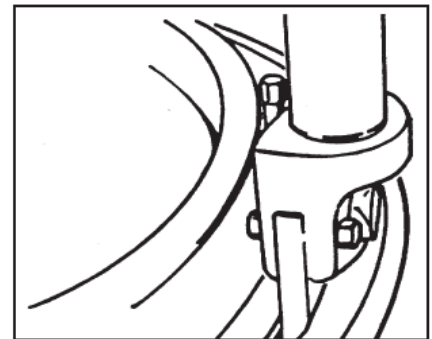

Figure 3
1. Place the bead breaker into the continuous pry bar pocket, with the hooks under the lip of the bead seat band. (See Fig. 3.)
3. Adjust the ram adjusting screw so that the bead breaker is perpendicular (90°) to the wheel. (See Fig. 3.) In some cases you may have to use an OTR-1825D (10100) or OTR-1600 (10105) to move the rim flange far enough back to insert the larger OTR-2000E (10103) tool.